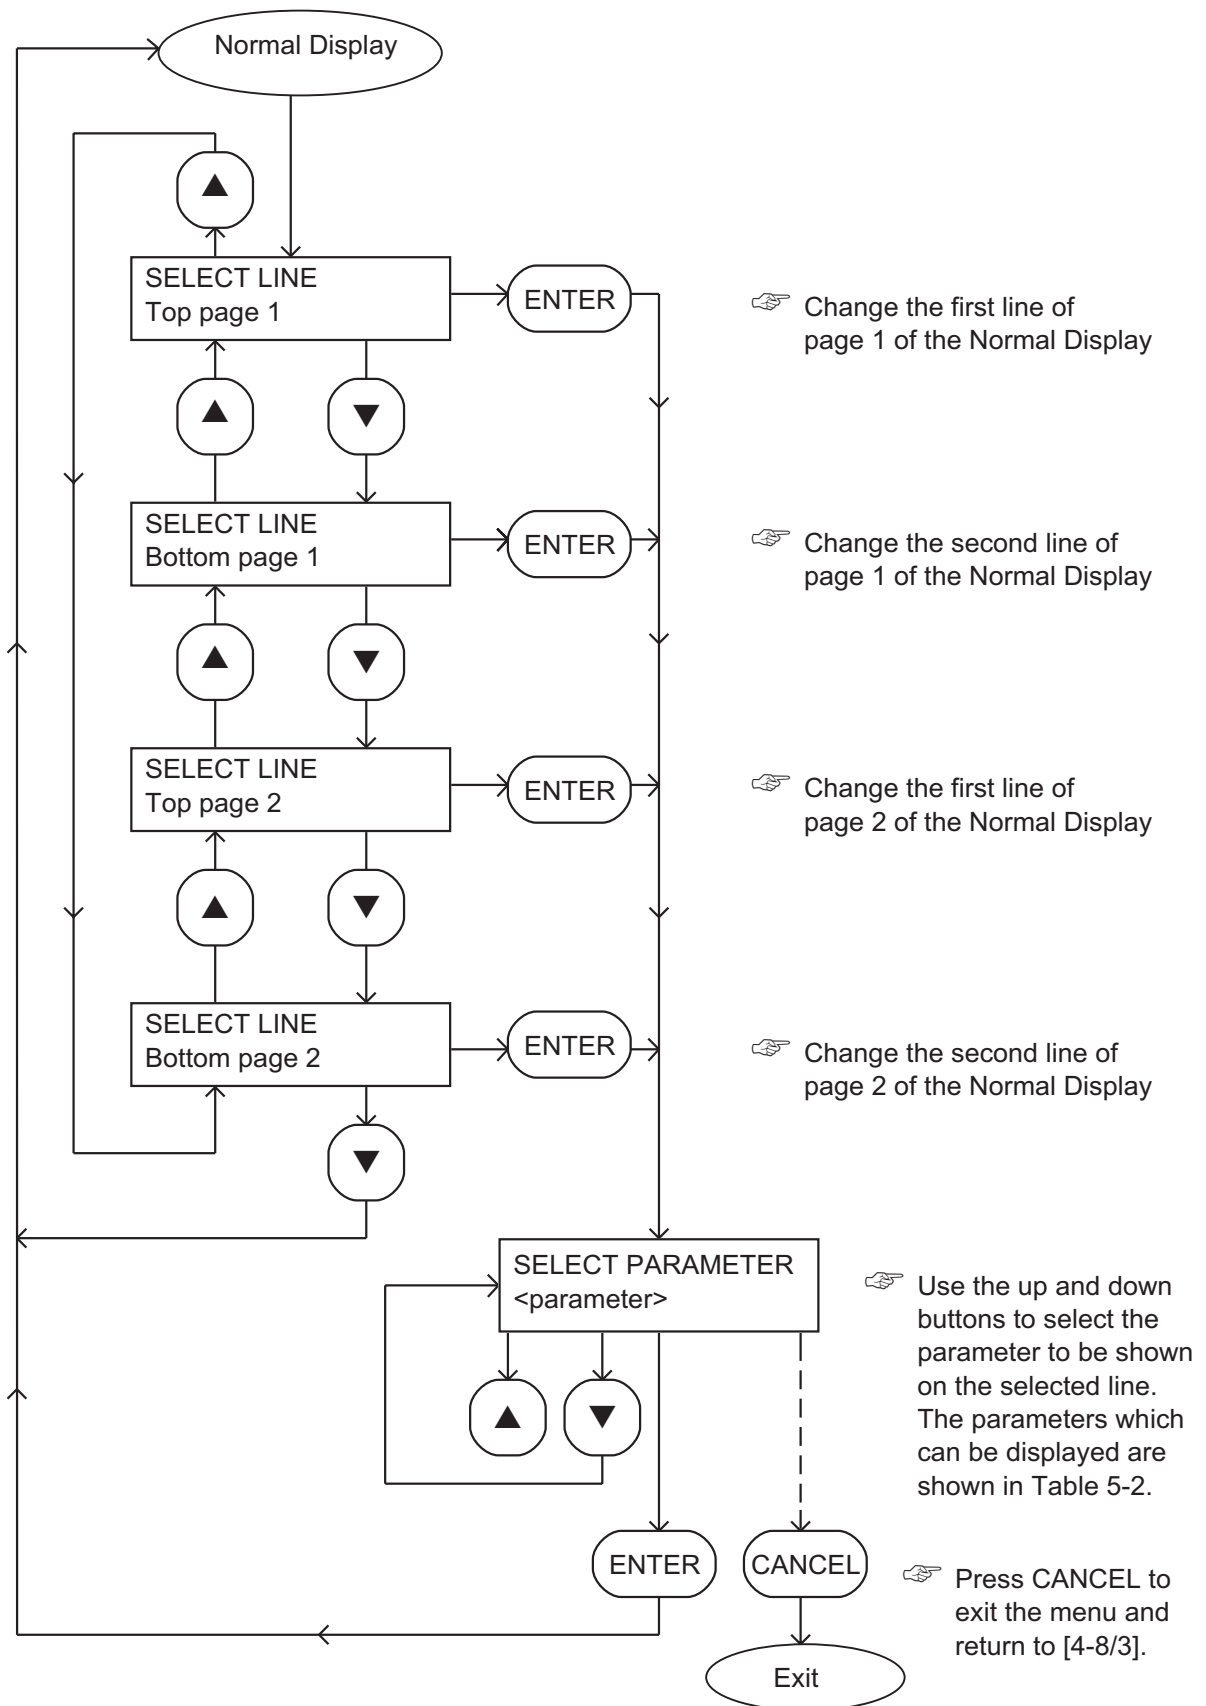

Figure 4-11 - Normal display menu
7. Press the ENTER button; the display will then show 'Units Select' on the top line and 'Pressure' on the bottom line (see Figure 4-11).